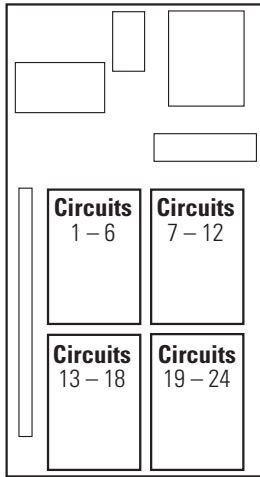

Figure 8: 20 amp Transfer switch circuit assignments
2. Connect a Neutral wire for each dimmer circuit to terminals **NN1** through **NN6** on the right side of the transfer switch assembly. See Figure 8, left, to match switch assemblies to loads.
2. Connect a Neutral wire for each lighting load to terminals **LN1** through **LN6** on the left side of the transfer switch assembly. See Figure 8, above, to match switch assemblies to loads.